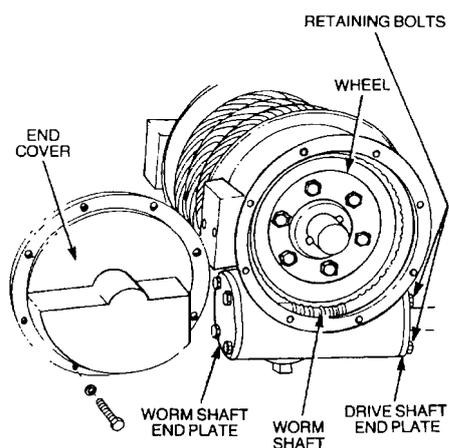

Figure 327 Removing the End Cover
- m. Remove the cover and discard the gasket (Figure 327).